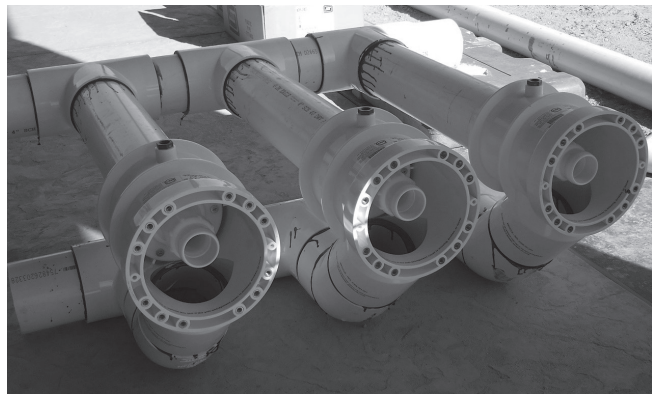

Figure 9
- A. Install plumbing manifold (for two and three jet systems) or approximately 12" of 4" SCH 40 pipe (for single jet systems) to both suction and discharge fittings on the jet housing(s). See Figure 9
- B. Thread one (1) air regulator hose nipple into the top of each jet housing. Secure plastic air regulator hose (part #15) to the air regulator hose nipple(s) (part #14) using the hose clamp(s) (part #16).